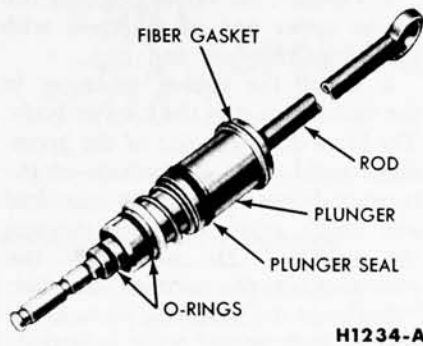

FIG. 21—Valve Operating Rod and Plunger Assembly
2. Remove the "O"-rings, the seal, and the fibre gasket from the valve plunger (Fig. 21).